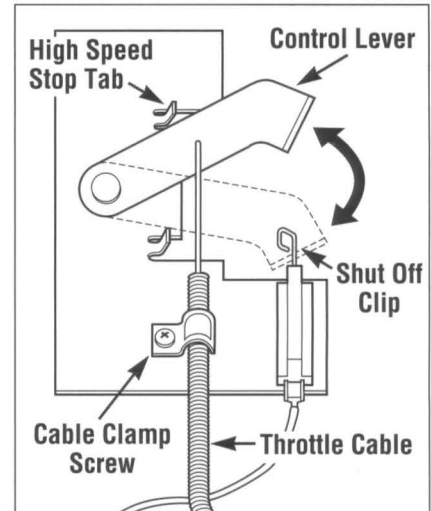

Figure 5: Throttle control bracket. Note that the components on your engine may vary in size and shape from those shown above.
2. If the throttle control is properly adjusted, the Control Lever on the engine (see Fig. 5) should touch the High Speed Stop tab located on
3. Loosen the Cable Clamp Screw (Fig. 5) until the Throttle Cable is free to move in the Cable Clamp (do not remove the screw).